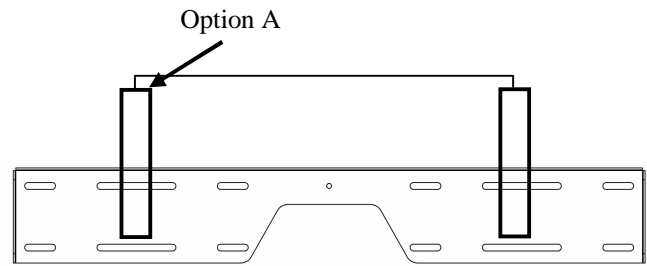
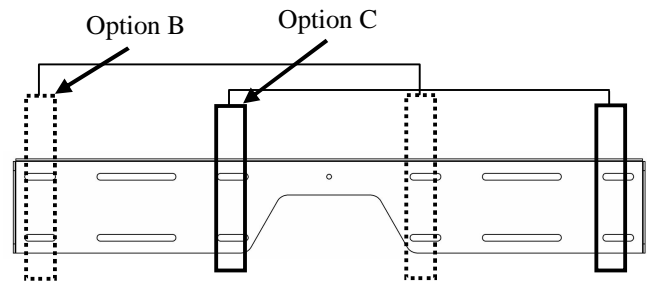
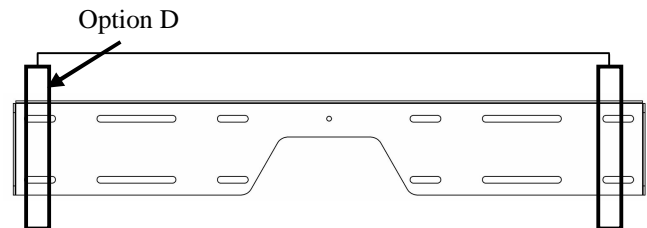

Figure 6. Mounting Holes – 16" Apart on Center (Option A)
Figure 7. Mounting Holes – 16" Apart on Center (Options B and C)
Figure 8. Mounting Holes – 24" Apart On Center (Option D)
4. Select the pair of mounting holes that best suits your situation. For an illustration and more information, refer to Figure 6, Figure 7, and Figure 8 on page 5
- **Option A.** Install four 5/16" x 2-1/2" lag bolts and four washers (two top and two bottom) into the mounting holes, centering the wall bracket on dual wood studs 16" apart on center as shown in Figure 6.
- **Option B.** Install four 5/16" x 2-1/2" lag bolts and four washers (two top and two bottom) into the mounting holes that are *right of center* on dual wood studs 16" apart as shown in Figure 7.
- **Option C.** Install four 5/16" x 2-1/2" lag bolts and four washers (two top and two bottom) into the mounting holes that are *left of center* on dual wood studs 16" apart on center as shown in Figure 7.
- **Option D.** Install four 5/16" x 2-1/2" lag bolts and four washers (two top and two bottom) into the mounting holes, centering the wall bracket on dual wood studs 24" apart on center as shown in Figure 8.